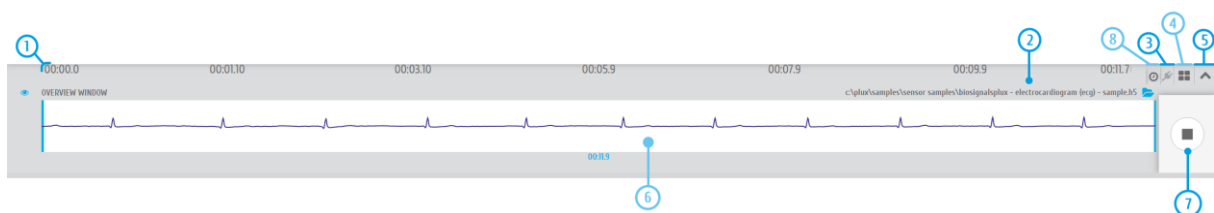

Figure 93: Control bar.
- Time axis (x-axis; 1 in Figure 93)
- File information and access to open file dialog (2 in Figure 93)
- Access *OpenSignals (r)evolution* add-ons (3 in Figure 93)
- Multi-channel visualization modes (4 in Figure 93)
- Unhide hidden channels (5 in Figure 93)
- Overview window (x-axis adjustments; 6 in Figure 93)
- Return to *OpenSignals*' main interface (7 in Figure 93)
- Switch Time-axis (new functionality; 8 in Figure 93)